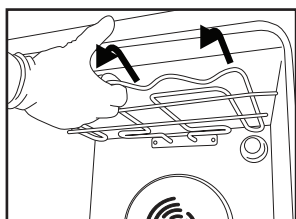
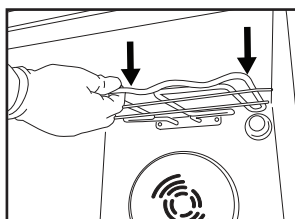

Fig. 3
Fig. 4
2. Pull the heating element out a little (Fig. 3) and lower it (Fig. 4).